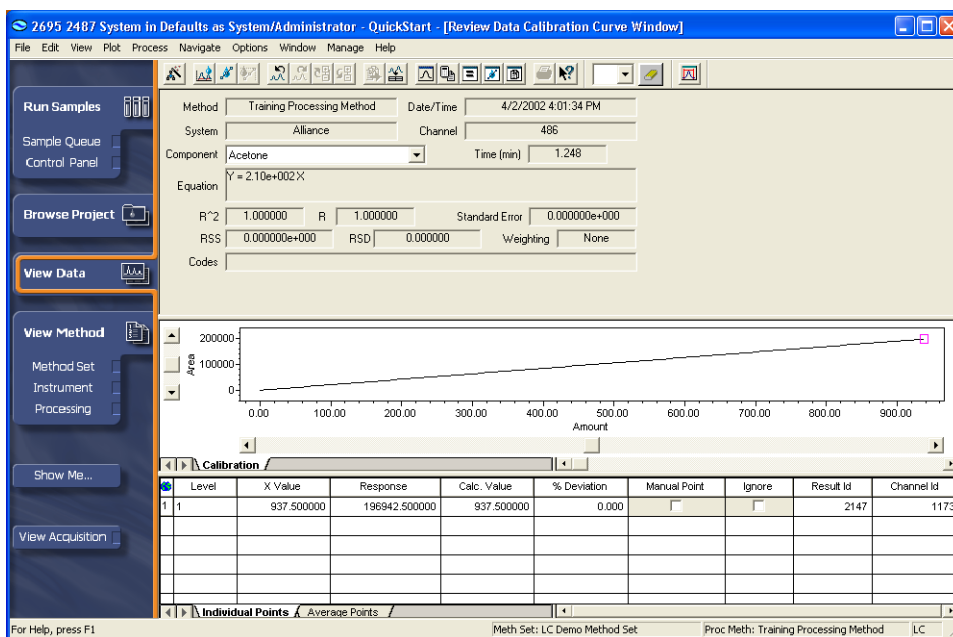

Figure 6-11 Calibration Curve Window
2. Click  (Calibration Curve Window) to view the calibration curves. The Calibration Curve window appears (Figure 6-11).
4. Select **File > Save > Calibration** to save the calibration curve and to associate it with the processing method that is currently open. This automatically saves the results for the standard (Figure 6-11).